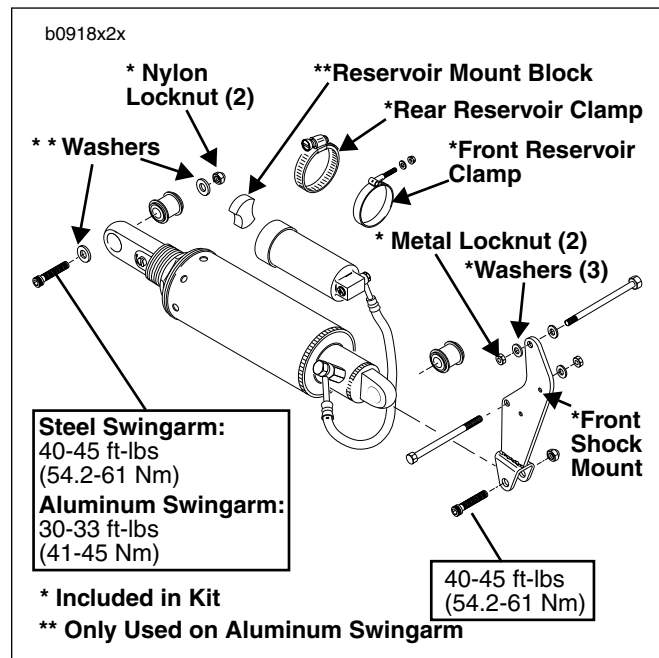

Figure 2. New Shock Absorber Assembly
4. See Figure 2. Use a flex socket and extension to remove locknut and washer on front reservoir clamp. Discard clamp, locknut and washer.
5. See Figure 2. Loosen rear reservoir clamp. Slide reservoir and mount block out of clamp. Remove and discard clamp and mount block.
1. See Figure 2. Install **new** front shock mount to crankcase with two **new** front shock mount bolts, washers, star washer (on 1997 M2, S3/S3T models only) and metal locknuts. Tighten bolts to 30-33 ft-lbs (41-45 Nm). **NOTE:** Top bolt goes in from the left side, bottom bolt goes in from right side. Bottom bolt does not use washer under bolt head. Star washer (only used on 1997 M2, S3/S3T models) goes on bottom bolt under the washer on the nut side. If exhaust was loosened during front shock mount removal, replace exhaust gaskets and reinstall exhaust. See appropriate Service Manual, Section 2 for instructions.
4. See Figure 2. Position **new** shock absorber from kit in mounting position.